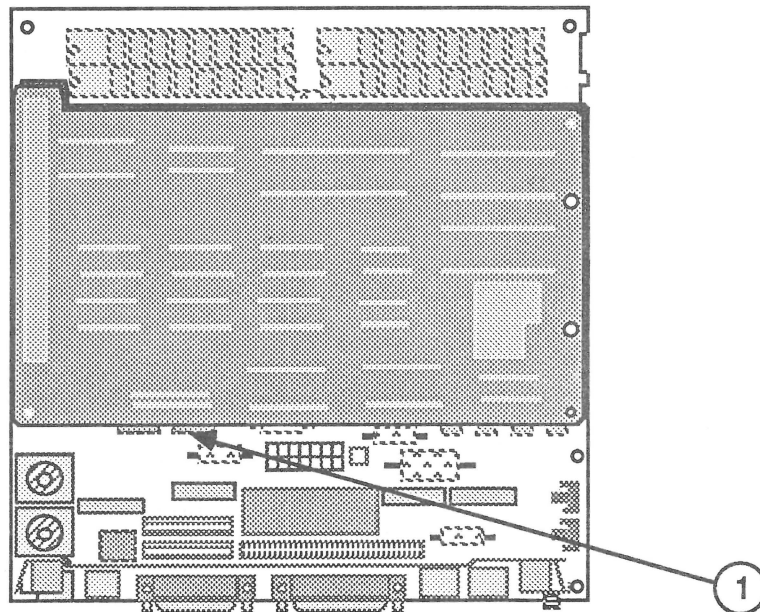

FIGURE 7
5. Unplug the SE-Bus PC Card cable from the 26-pin connector on the SE-Bus PC Card (Figure 7, #1).
- IPL.15 Analog Board (Figure 7)